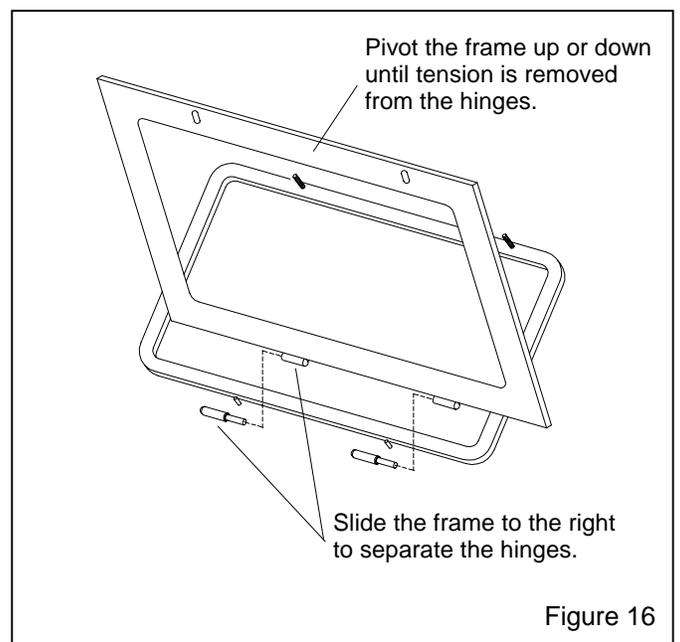

Figure 16
### 7.5 Window Frame Removal, Figure 16
**7.5.4** Slide the frame to the right, to remove. The hinges separate as shown in Figure 16.